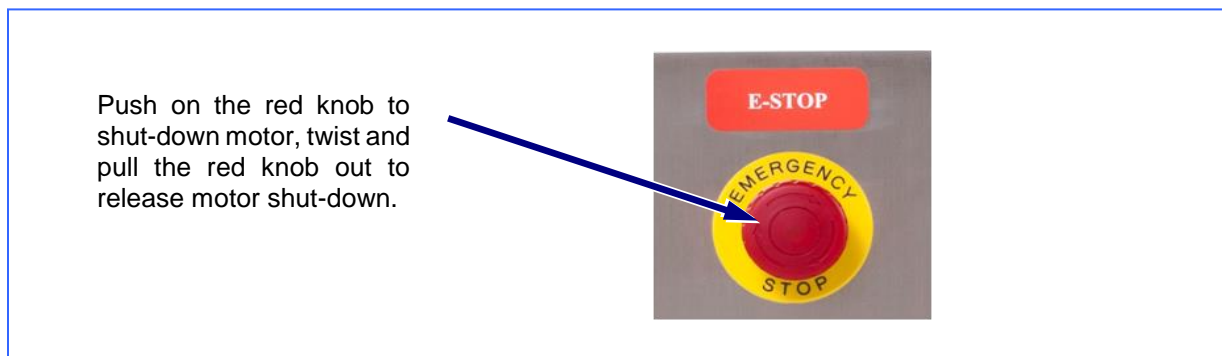

Figure 5.1 –Emergency Shut Down Switch On
- 3) Turn the E-Stop button and pull out to release (See Figure 5.1).
1. Engage the pressure pump by turning the start-up by-pass valve to the "CLOSED" position (See Figure 5.1).